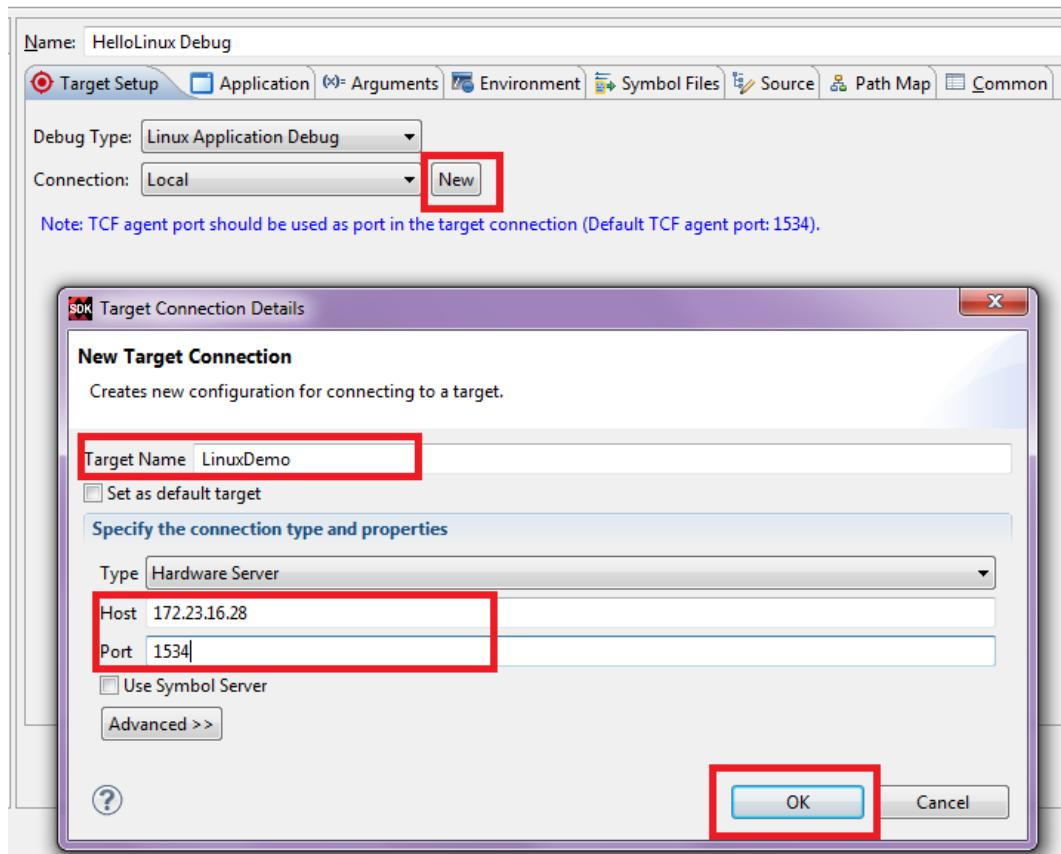

Figure 6-8: Debug Configuration Target Connection Settings
8. In the **Target Connection Details** dialog box (shown in Figure 6-8):